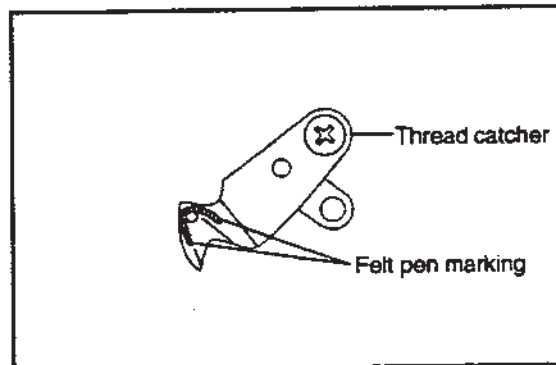

FIG.2
- (5) Smear the thread catcher with a felt pen (Fig.2).